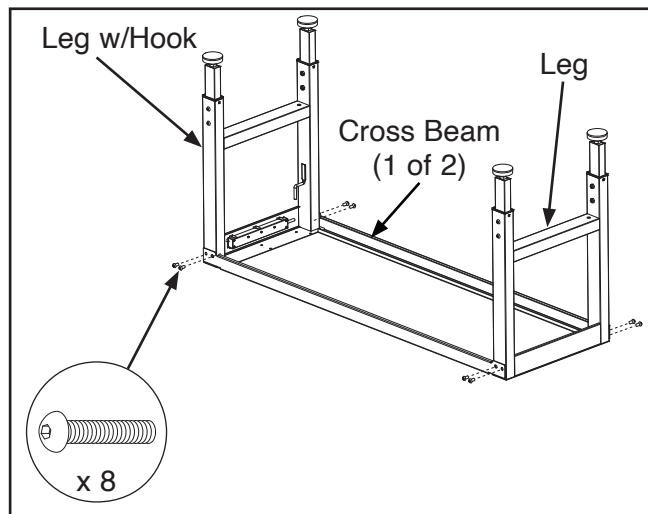

Figure 3. Cross beams attached to legs.
1. Place leg w/hook and leg upside down with power strip outlets facing outward, then attach (2) cross beams to legs and secure with (8) M8-1.25 x 20 button head cap screws (see **Figure 3**).